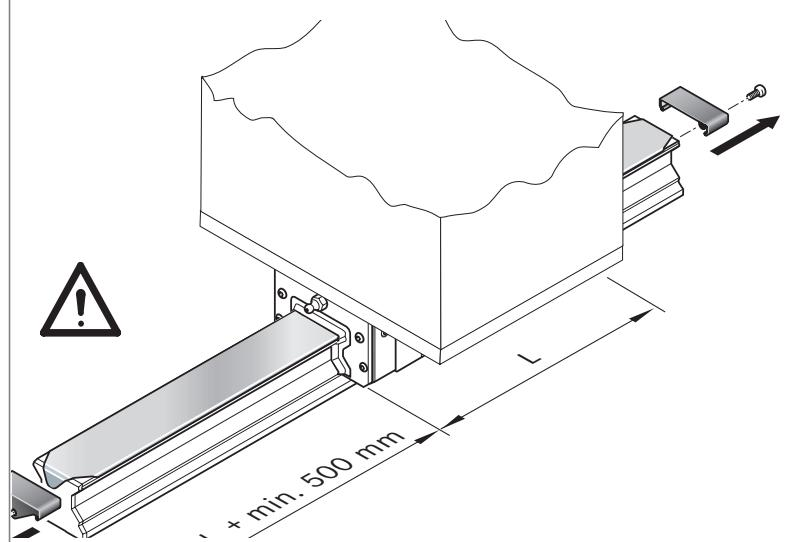

Fig. 41: Removing the snap-fit Rail Seal
- ▶ Cut off the tongue. Fig. 41